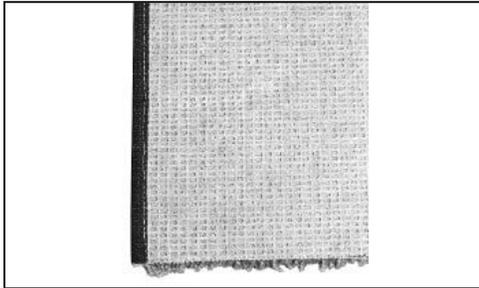

FIG. 15
1. Sew first side, then trim flush with edge (Figure 15).